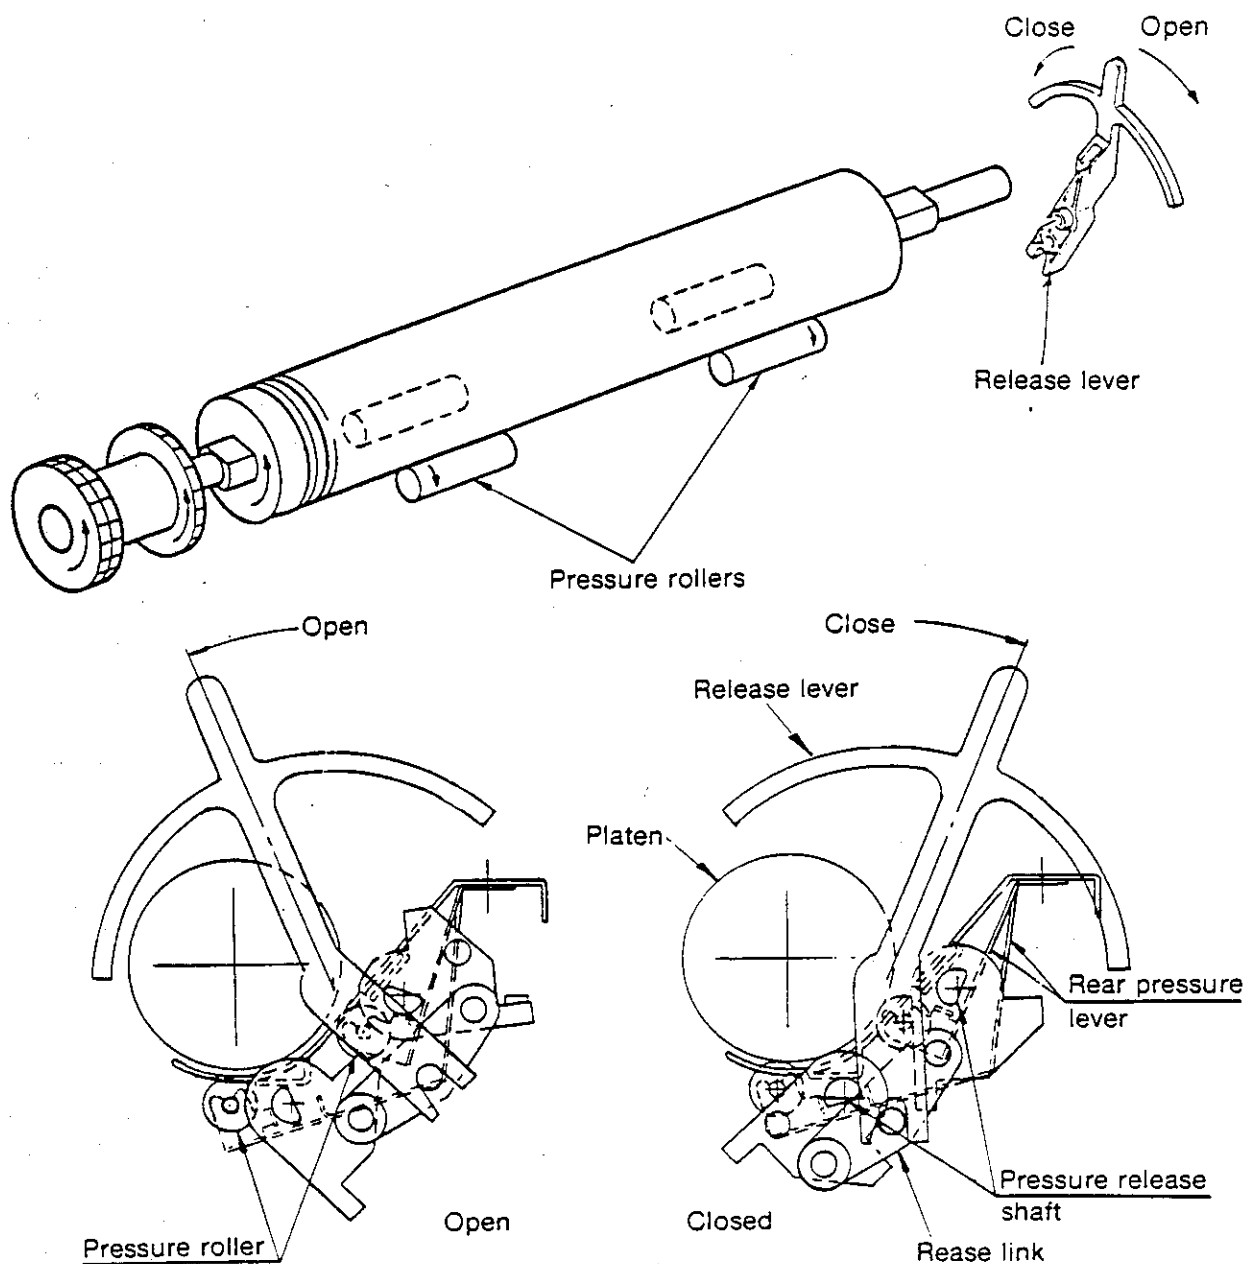

Figure A-10 Paper clamp mechanism
(2) Paper clamping mechanism (See Figure A-10)